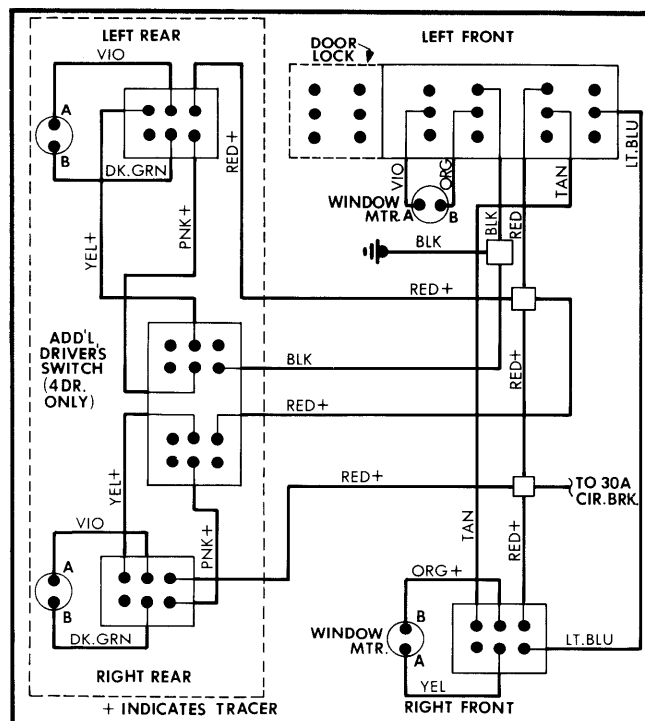

Fig. 1 Power Window Wiring Diagram
2) Reverse jumper wire connections. Motor should move window in opposite direction from first test. See Fig. 1.